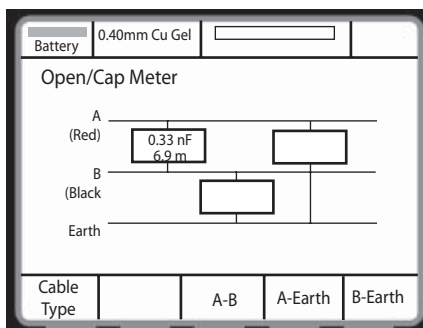

Figure 19 - Open/Cap Meter Results screen
5.4.1 Setting up and using the Open/Cap Meter (Figure 19)